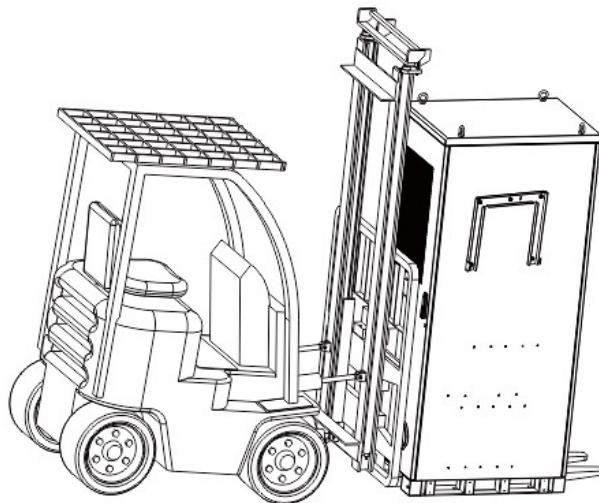

Fig.3-3 Fork Diagram
4. For safety considerations during forklift loading, it is recommended that a safety belt be tied around the energy storage cabinet and attached to the forklift crossbar. For specific forklift operations, refer to Fig.3-3 below.